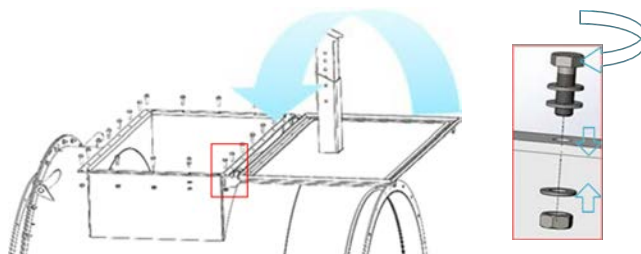

Figure 13. Closing inspection panel
Step 3: Close the inspection as shown in Figure 13. If necessary, renew the sealing tape to make sure it remains airtight.